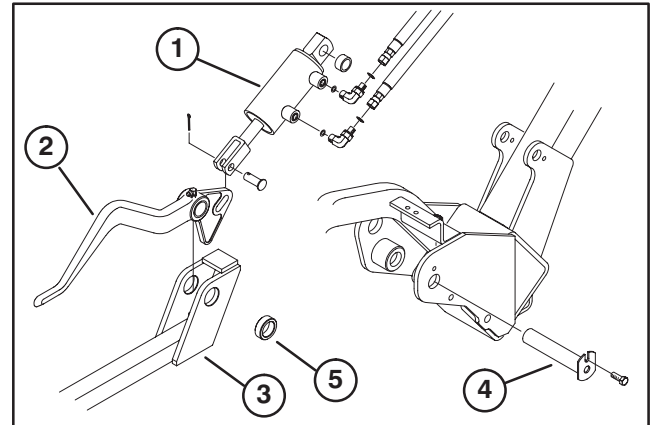

Figure 3
8. Remove cotter pins and clevis pins securing hydraulic lift cylinders to lift arms. Retain cotter pins and clevis pins (Fig. 3).
9. Remove capscrews, pivot pins and spacers securing front lift arms and carrier frames to traction unit frame (Fig. 3). Discard lift arms and carrier frames but retain capscrews, pivot pins and spacers.